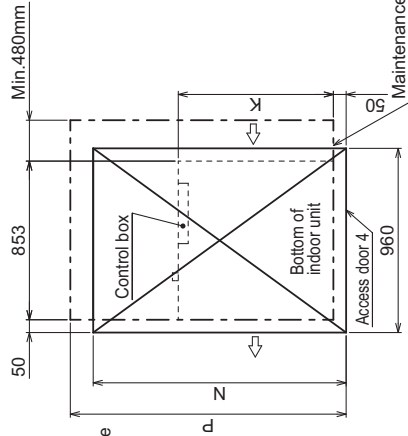

Fig. 5 (Viewed from the direction of the arrow B) <Suction filter box built-in-specification>
- Create access door 4 below the control box and the unit as shown in Fig. 5.